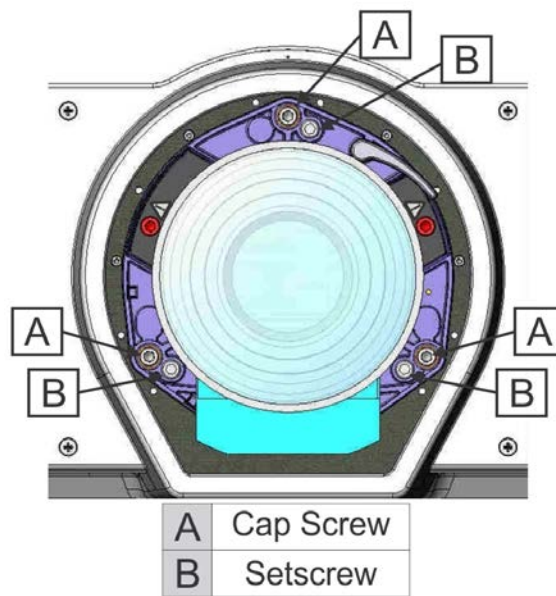
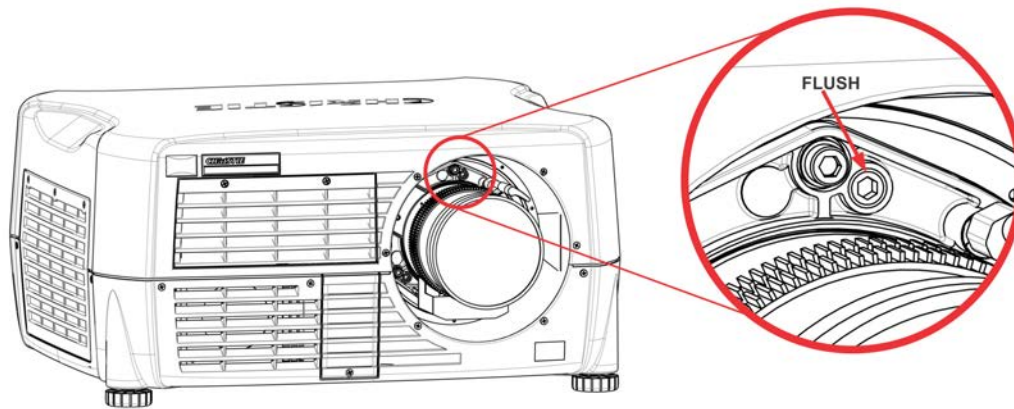

FIGURE 2-17 SCREW LOCATIONS
FIGURE 2-18
NOTE: The cap screw, (Figure 2-17) may be under a plastic cap, remove and retain before adjusting.
4. Use a 5 mm Allen™ key to loosen the three locking setscrews on the lens mount, see Figure 2-17, below.
5. Fine tune the focus of cross-hair pattern I by adjusting the appropriate cap screw, see Figure 2-17. Adjust until the cross-hair image is in focus with minimal flare.
6. Adjust cross-hair pattern II, by adjusting the appropriate cap screw, see Figure 2-17. Adjust until the cross-hair image is in focus with minimal flare.
7. Adjust cross-hair pattern III, by adjusting the appropriate cap screw, see Figure 2-17. Adjust until the cross-hair image is in focus with minimal flare.
9. The original factory boresight can be recovered approximately by positioning the three setscrews, see Figure 2-17. Position the setscrews flush with the front face of the lens mount plate and in contact with the inner lens mount plate, see below Figure 2-18. This may require adjusting both setscrews and cap screws.